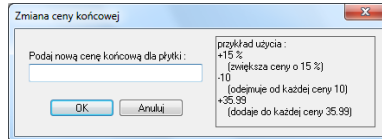

Fig. 216 – changing the final price of a selected tile
- **Change price** – allows to modify a price for any tile in the User Database or in a producer's one (available also under **[F3]** key); if the user does not select a particular tile, then the prices will be changed for all tiles in the selected collection; if an individual tile is selected, then only its price will be changed (Fig. 216).